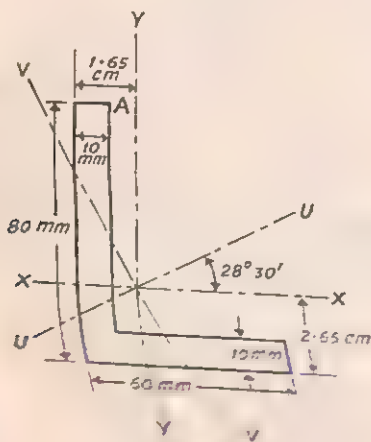

Fig. 59
7. Fig. 59 shows an unequal angle section, for which  $I_x = 80.8 \text{ cm}^4$  and  $I_y = 38.8 \text{ cm}^4$ . Find the moments of inertia about the principal axes  $UU$  and  $VV$ , given that the angle between the axes  $UU$  and  $XX$  is  $28^\circ 30'$ .